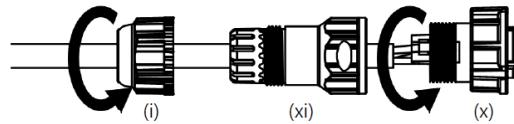

Figure 51: Step 5
5. Screw the sealing nut (i) and the assembled housing (x) onto the assembled sealing body (xi) with a torque force of 8–10 kgf-cm (Figure 51).